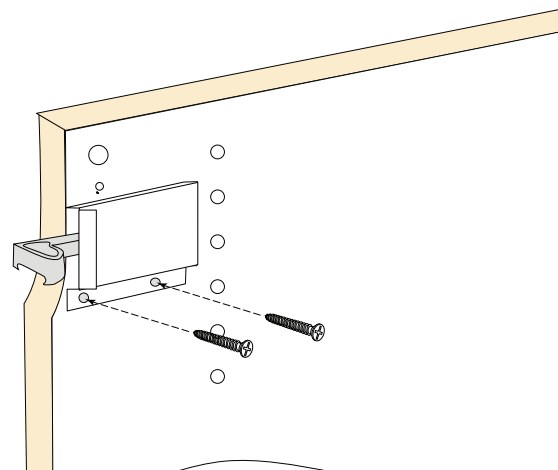

Fig. 1
- Mount all left and right suspension brackets to the hanging partitions prior to system installation using two (2) #8 x 5/8" screws through the bracket into the pre-drilled bracket holes on the partition. Snap on Fast Caps to the opposite side of the partition over the exposed bracket holes. (See Fig. 1.)